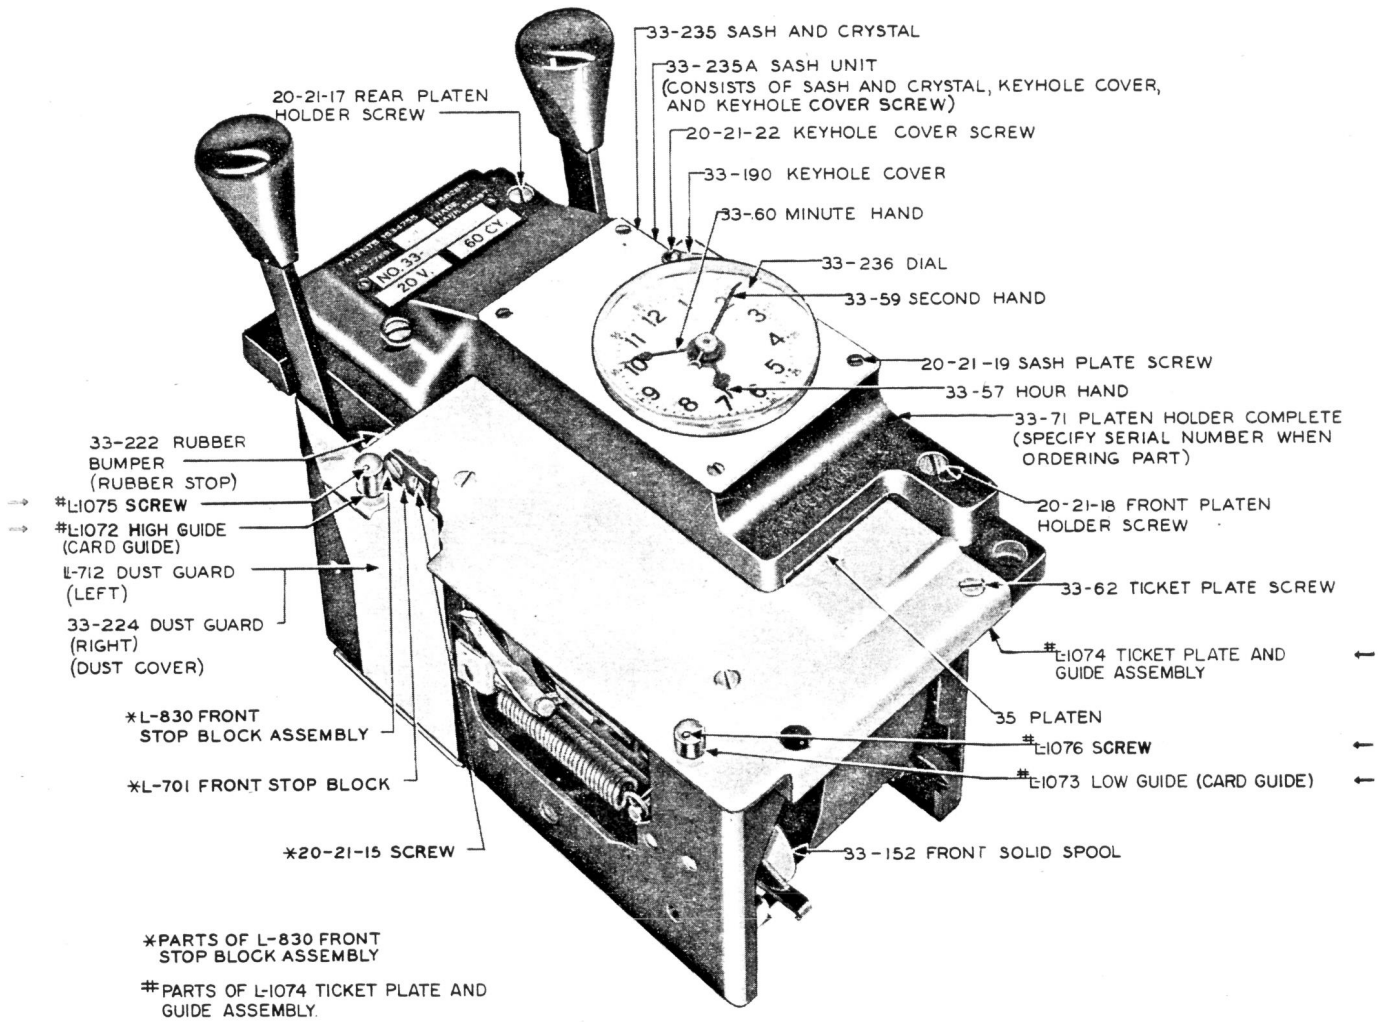

Fig. 1 - Ticket Plate, Platen Holder, and Associated Parts (KS-7769, L14 Calculagraph Illustrated)
1.02 This section is reissued to revise the piece-part data for the ticket plate and to revise Fig. 1.